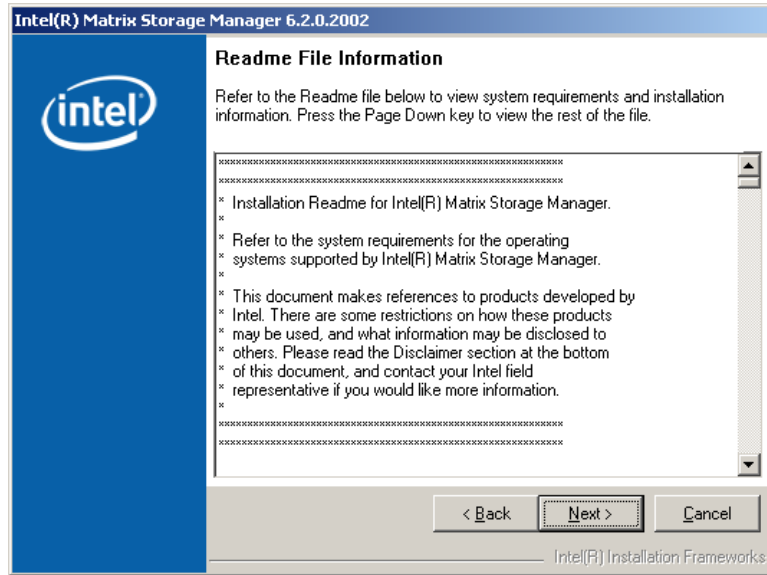

Figure 6-30: Matrix Storage Manager Readme File
Step 9: Read the license agreement. To accept the terms and conditions stipulated in the license agreement shown, click **YES** and the Readme information file shown in **Figure 6-30** appears.